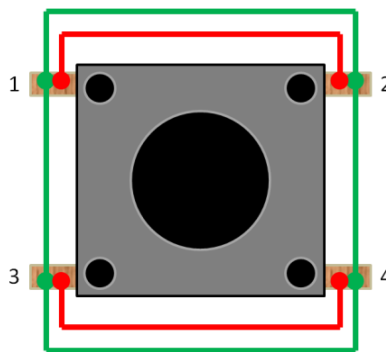

Figure 1: Pushbutton connections; red = not pressed, green = pressed
- Obtain a four-terminal pushbutton. Figure 1 shows a diagram of a pushbutton and its internal connections. When the button is not being pressed, terminals 1 and 2 are electrically connected to each other (shown in red), and terminals 3 and 4 are electrically connected to each other (also shown in red). When the button is pressed, all four terminals become electrically connected to each other (shown in green).